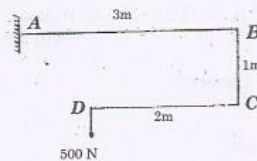

Fig. 2
- (b) A mild steel bar 100 mm diameter is bent as shown in Fig. 2. It is fixed at A and a load of 500 N hangs at D. Find the deflection at D by Castigliano's method. Take E = 200 GPa.